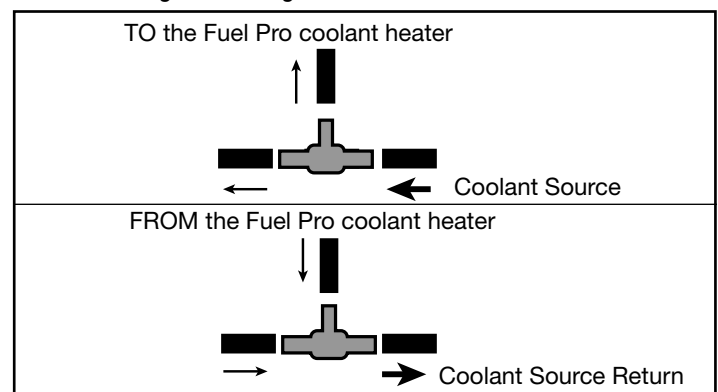

Figure 3: Tee Connections
11. Using heater hose pliers, clamp off both sides of each cab heater hose that will be used for heating the Fuel Pro 483. Cut the heater hose and install the appropriate size Tee (Figure 3) into each hose. Call DAVCO Customer Service to order Tee Connections.